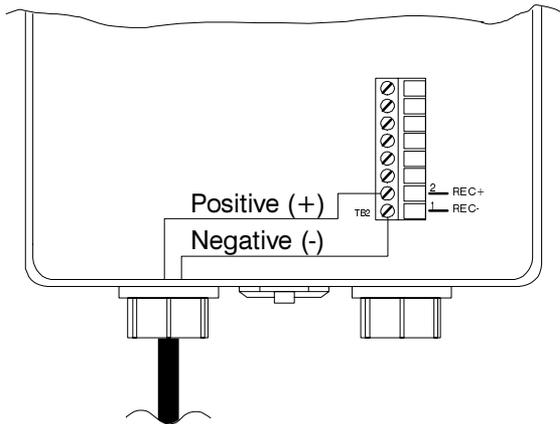

Figure 3-3 Recorder Output Wiring
3. Connect the leads to terminals 1 and 2 of the sensor terminal strip (see Figure 3-3). Connect the positive (+) lead to **REC +** (terminal 2) and the negative (-) lead to **REC-** (terminal 1).